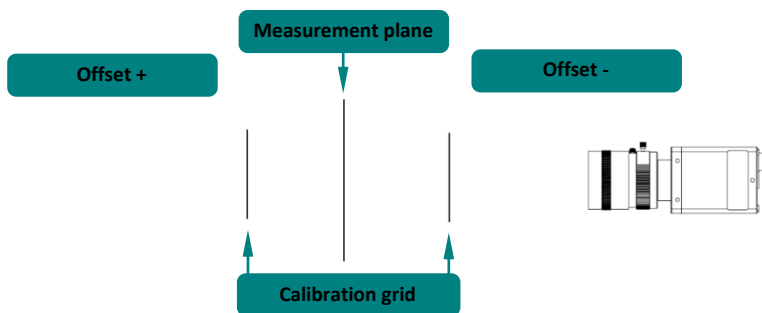

Figure 26: Adjustment of plane offset.
- **Plane Offset [mm]** – Allows adjustment of the real displacement of the measured plane relative to the plane used to set coordinate points. A positive value indicates that the measured plane is closer to camera, as indicated by Figure 26. This feature is available only if the associated camera is calibrated and is usually used when a calibration grid is positioned on top of the measured plane and coordinate system is set using this grid. In this case, the offset is equal to negative thickness of calibration grid.